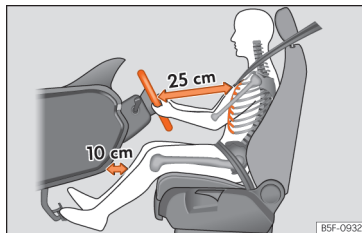

Fig. 19 The correct distance between the driver and the steering wheel must be at least 25 cm [10 inches].
- Adjust the steering wheel so that it is at a distance of at least 25 cm (10 inches) from the sternum >>> **Fig. 19** and can hold it with both hands on the sides, on the outside, with the arms slightly flexed.